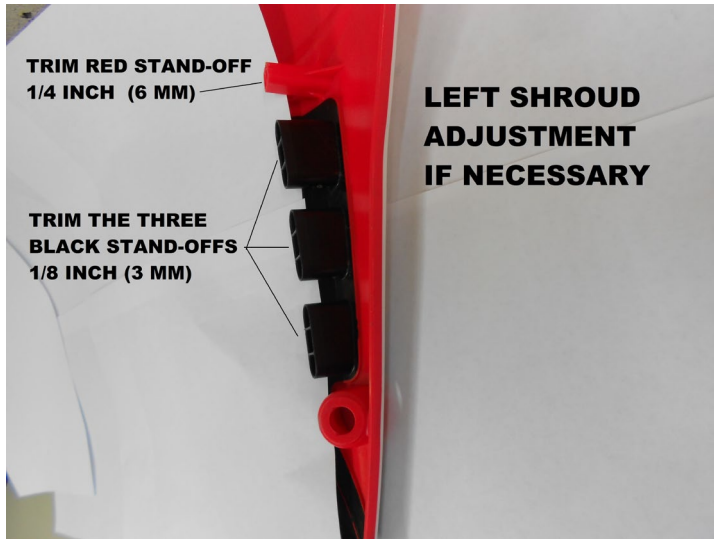
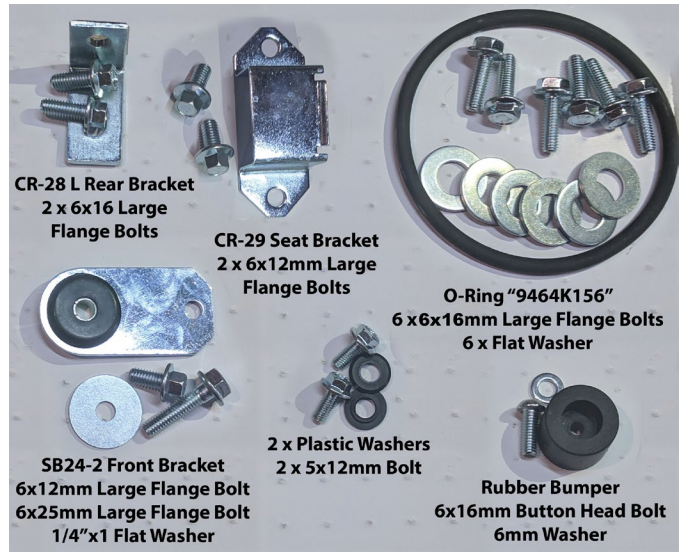

Fig. 1
Fig. 2
Replace OEM shroud bolts by using (4) plastic collars & (4) 5x12mm bolts onto IMS Tank. (see Fig. 1 and Fig. 2).